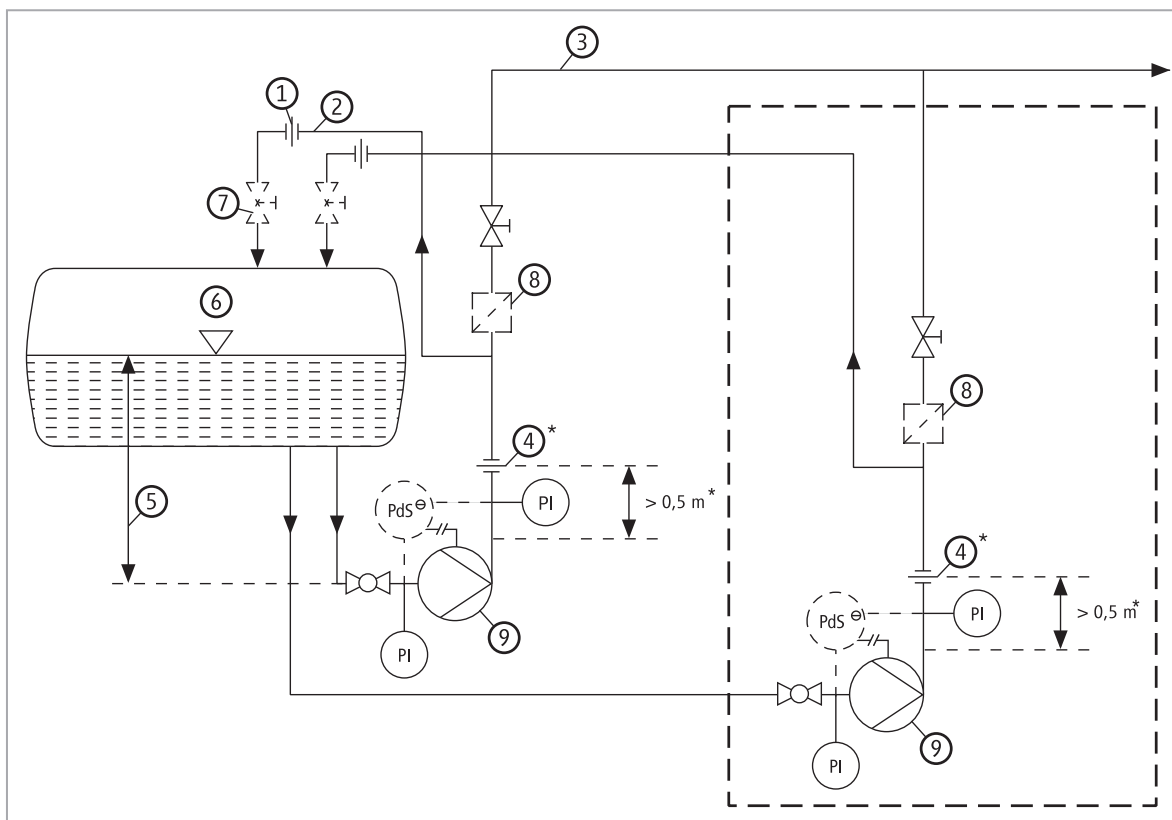

Fig. 3
Operation within the required minimum and permissible maximum flow rate can be ensured by the use of a by-pass or suitable Q_{min} and Q_{max} -orifices (pls. see Fig. 3). Instead of the Q_{max} -orifice, a differential pressure switch can be used to stop the pump if the discharge head becomes lower than the minimum permissible discharge pressure equivalent to Q_{max} . Time delay max. 10 sec.
- During standstill, the by-pass is used as a vent line. The pump should not be started unless it is primed with liquid refrigerant. During first priming or re-starting, all parts of the pump should be in thermal equilibrium with the suction vessel. When using non-return valves at the pump discharge, note that the by-pass line must be installed before the non-return valve, to permit automatic venting (Fig. 3).
8. When two or more pumps in parallel operation serve a common discharge line (Fig. 3), a separate by-pass line with Q_{\min} -orifice must be provided for each pump unit. This is to remove the gas which arises during standstill of the pump. With this arrangement, the minimum flow is assured and does not depend on the differential head. If one pump is used as a stand-by pump, non-return valves have to be mounted in the discharge line to avoid back-flow from operating to stand-by pump. The stand-by pump should be maintained full of liquid so as to be available for operation immediately. The by-passes enable a switch-over from one pump to the other or a connection of a second pump without operation of shut-off valves.